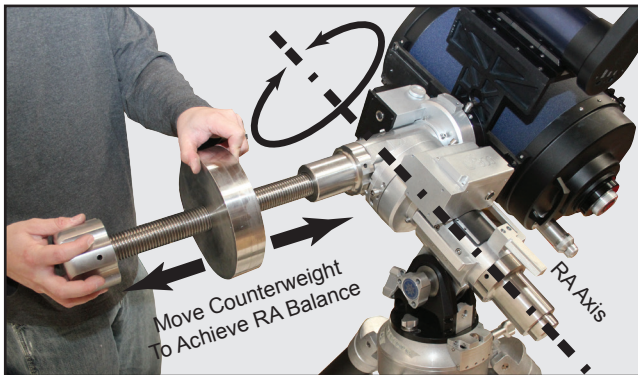

Fig 29: Balancing the RA axes
1. Firmly hold the optical tube secure so that it cannot accidentally swing freely. **NOTE:** An unbalanced OTA can swing quickly causing injury to the user. Loosen the RA Clutch. The optical tube now moves freely about the RA axis. Rotate the telescope so that the counterweight shaft (**Page 20, Fig. 29**) is parallel (horizontal) to the ground.
Advanced Coma-Free OTAs: Slightly loosen the OTA dovetail adapter lock knobs (**Page 8, Fig. 29**) so that the tube assembly slides easily back and forth in the